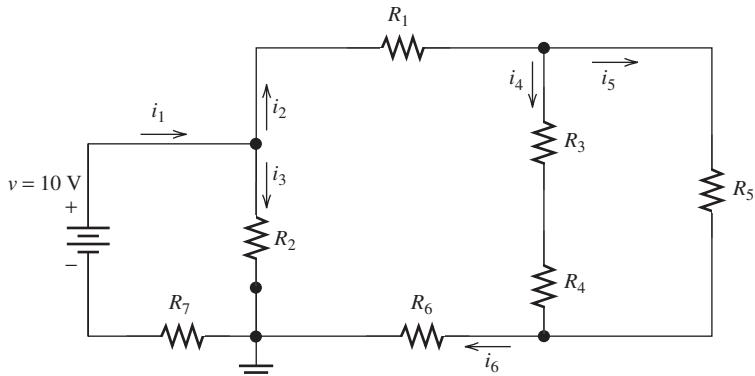

FIGURE P2.69 Circuit diagram for Problem 2.69.
- 2.69 (H)** Given the circuit shown in Figure P2.69, assume a 10 V voltage source. Find the values of the resistor R_6 and the current i_5 , assuming: $i_2 = 1 \text{ A}$, $R_1 = R_5 = 2 \Omega$, $R_2 = 4 \Omega$, $R_3 = R_4 = 1 \Omega$, $R_7 = 3 \Omega$. Verify the answer through PSpice software using the value of R_6 obtained from calculation.